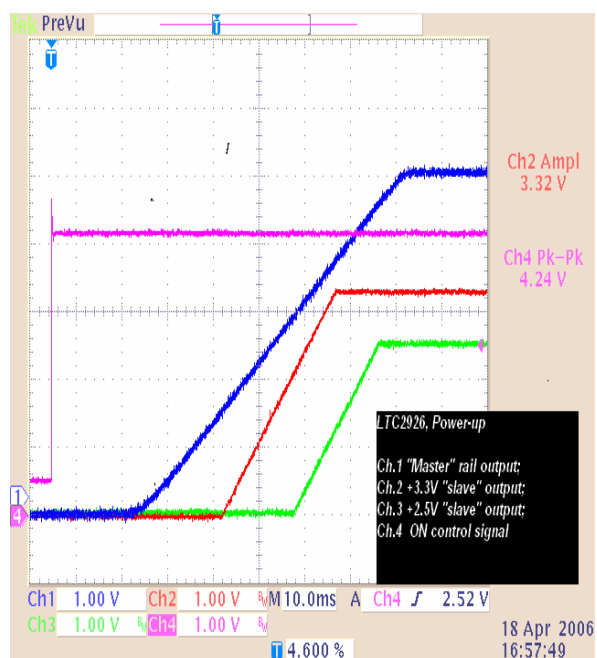

Figure 3. Power-up mode
8. The power-up output voltages should correlate with the transient shown in Figure 3. Acceptable tolerance in the slew rate value and timing position is $\pm 30\%$.